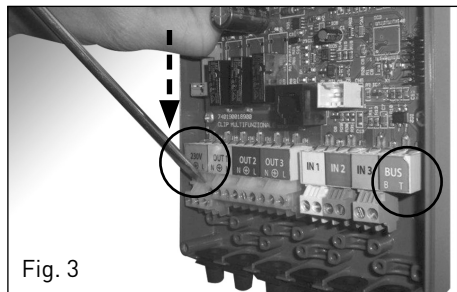

Fig. 3
- gently remove the two connectors at the end of the terminal board (fig. 3).